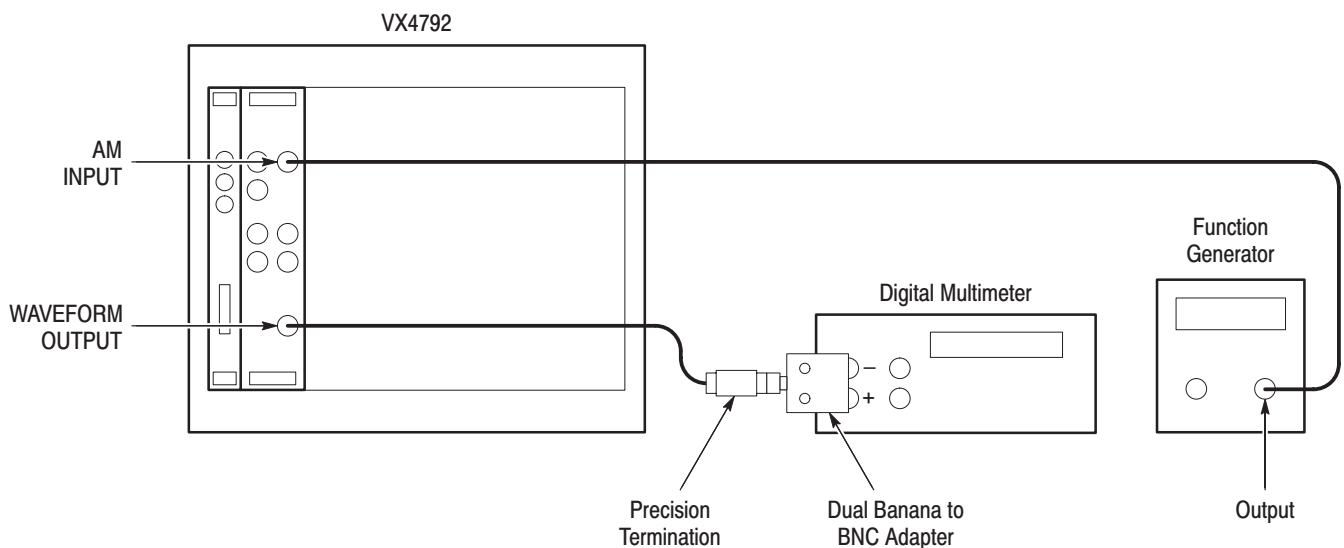

Figure F-11: External AM Operation Initial Test Setup
4. Install test setup (see Figure F-11):